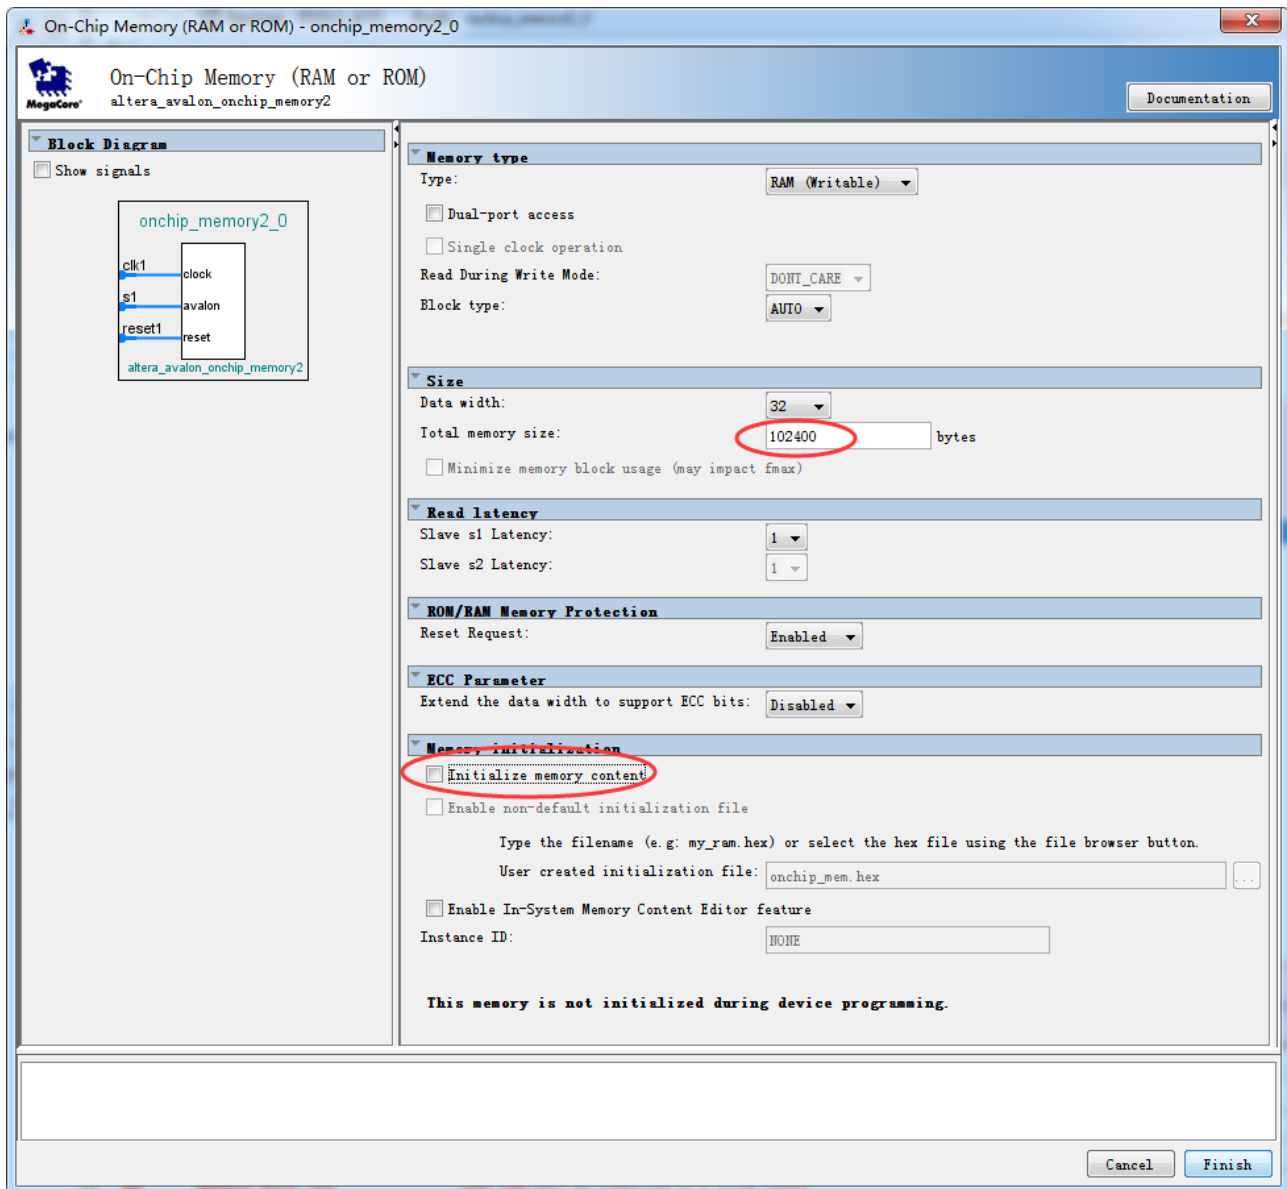
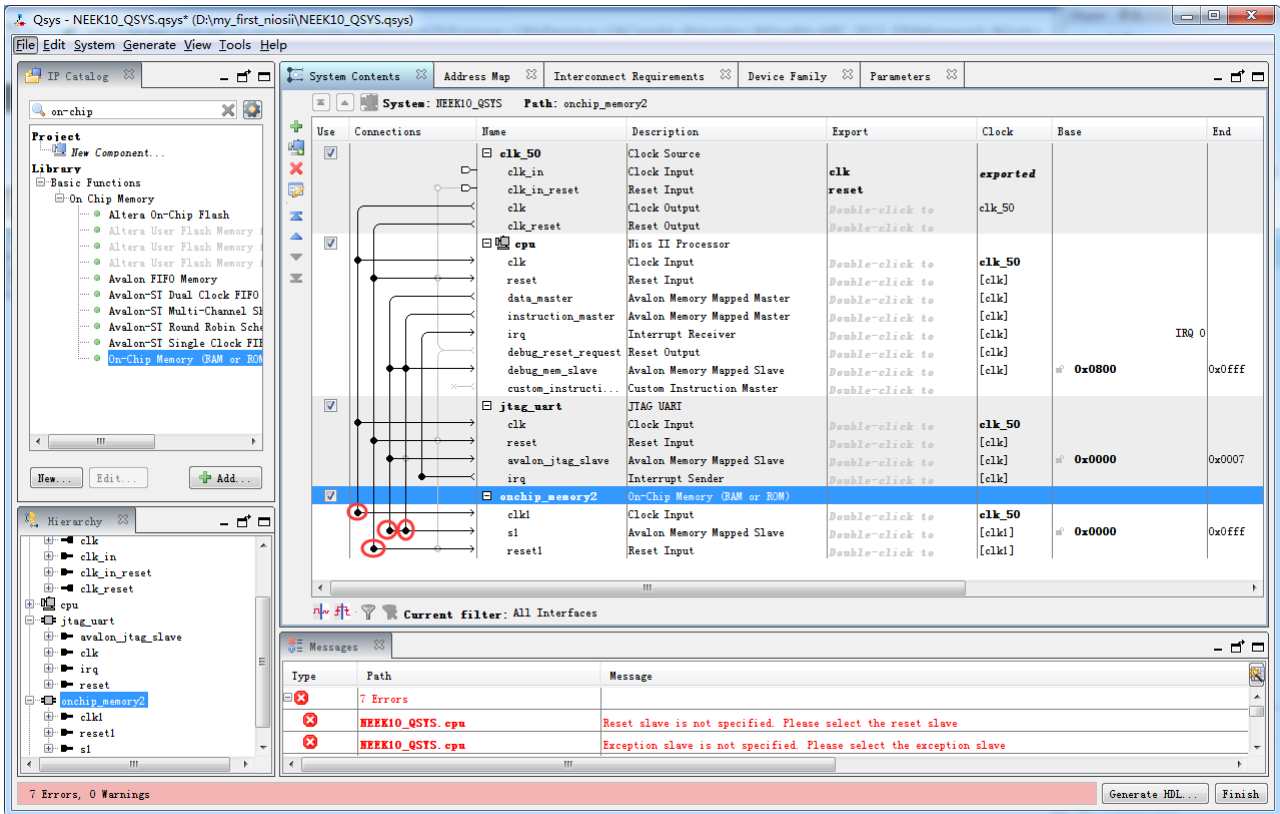

Figure 1-24 Update the default settings of On-Chip Memory
Figure 1-25 Rename the On-Chip Memory and establish connections via nodes
16. Modify Total memory size to 102400 and uncheck “initialize memory content”, as shown in **Figure 1-24**. Click **Finish** to return to the window as in **Figure 1-25**.
17. Rename **onchip_memory2_0** to **onchip_memory2**. Connect its **clk1** and **reset1** to the **clk** and **clk_reset** of **clk_50**. Its **s1** is connected to the **data_master** and **instruction_master** of **cpu**. **Figure 1-25** shows the complete connections.